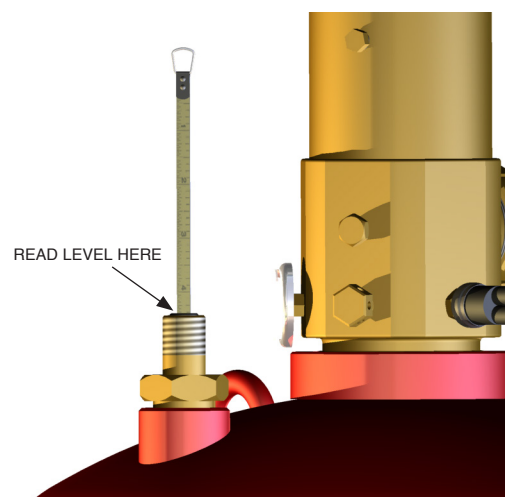

FIGURE 7-2
3. Read the measurement on the tape directly at the top of the plastic sleeve in the measuring device housing (see Figure 7-2). Record this measurement and note the temperature of the container module.